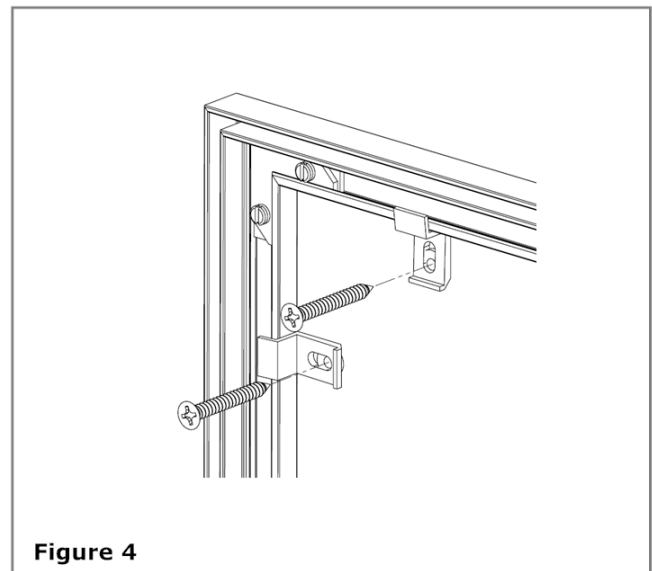

Figure 4
- Insert the #8 screws (supplied in the mounting kit, part #591091) through the mounting z-clips into anchors and tighten. Final leveling of the frame can be achieved by adjusting the mounting clips. See **Figure 4**.